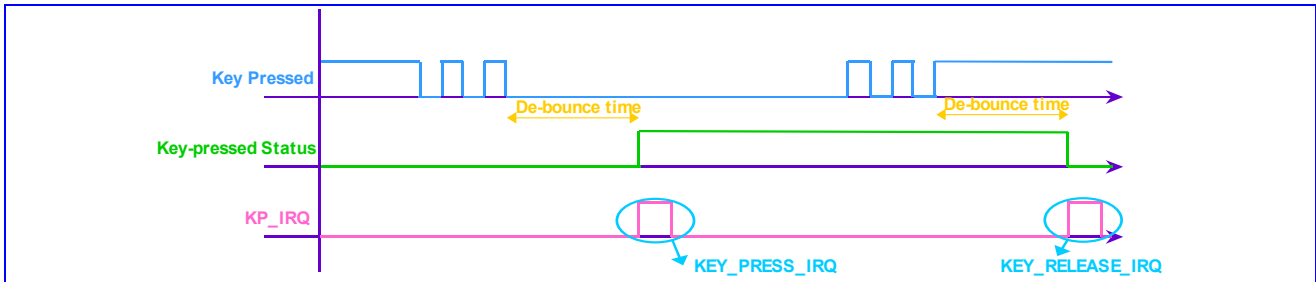
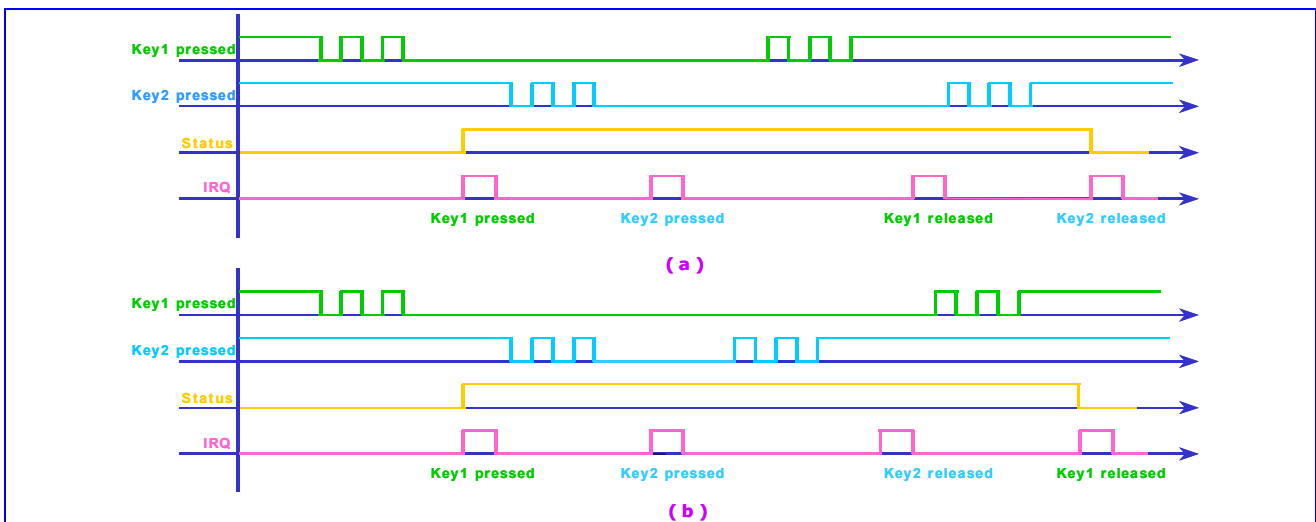
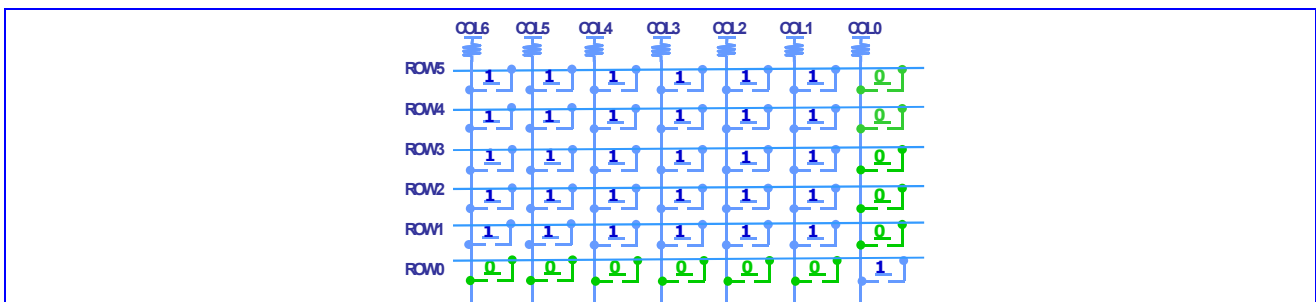

Figure 43 One key pressed with de-bounce mechanism denoted
Figure 44 (a) Two keys pressed, case 1 **(b)** Two keys pressed, case 2
Figure 45 11 keys are detected at the same time
will not be read clear by APB bus read command. The status register can only be changed by the key-pressed detection FSM. This keypad can detect one or two key-pressed simultaneously with any combination. **Figure 43** shows one key pressed condition. **Figure 44(a)** and **Figure 44(b)** indicate two keys pressed cases. Since the key press detection depends on the high or low level of the external keypad interface, if keys are pressed at the same time and there exists a key that is on the same column and the same row with the other keys, it will not be able to decode the correct key pressed. For example, if there are three key presses: key1 = (x1, y1), key2 = (x2, y2), and key3 = (x1, y2), then both key3 and key4 = (x2, y1) will be detected, and therefore it will not possible to distinguish correctly. Hence, the keypad can detect only one or two keys pressed simultaneously at any combination. Due to the keypad interface, more than two keys pressed simultaneously with some specific pattern will get the wrong information. If these specific patterns are excluded, the keypad-scanning block can detect 11 keys at the same time and it's shown as **Figure 45**.